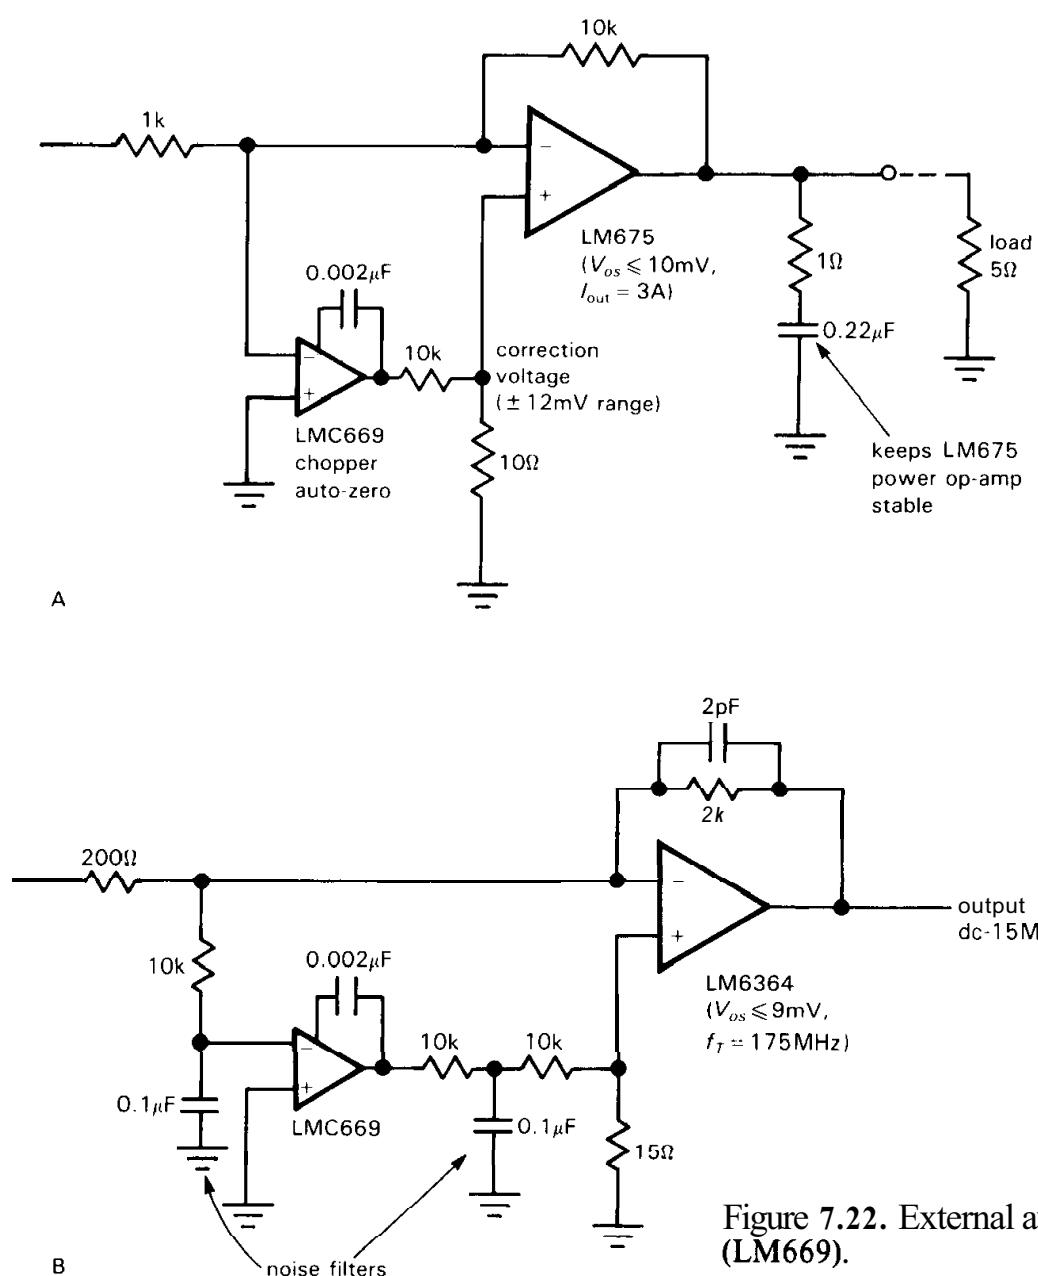

Figure 7.22. External auto-zeroing IC (LM669).
- **External auto-zero.** National makes a nice "auto-zero" chip (the LMC669) that can be used as an outboard nulling amplifier to make any op-amp of your choosing into an auto-zeroing amplifier (Fig. 7.22). It works most naturally with the inverting configuration, as shown, generating an error voltage to the noninverting input to maintain zero input offset. It doesn't do as well as the dedicated auto-zero amplifiers we've been considering: The  $V_{os}$  specification is  $5\mu\text{V}$  (typ),  $25\mu\text{V}$  (max). However, it does let you use the auto-zero technique with any op-amp. You might, for instance, use it to zero an imprecise but high-power or high-speed op-amp. The circuits shown are good examples. The LM675 is a nice high-power op-amp (3A output current, with sophisticated on-chip safe-operating-area and thermal protection), but with a maximum offset voltage of  $10\text{mV}$ . The auto-zero reduces that by nearly a factor of 1000. Likewise, the LM6364 is a fast op-amp ( $f_T = 175\text{MHz}$ , SR =  $350\text{V}/\mu\text{s}$ ) with maximum offset voltage of  $9\text{mV}$ , here reduced by a factor of 400. Note the RC filter